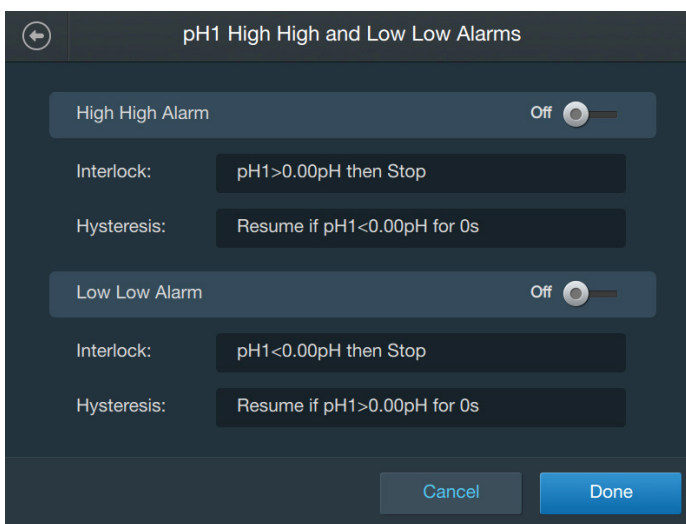

Figure 3.34. High High and Low Low Alarms screen.
11. On the screen that appears (Figure 3.34), there will be separate sections for both High High and Low Low alarms. Slide the Enable/Disable buttons on each section to the “Enable” side to enable the alarms.